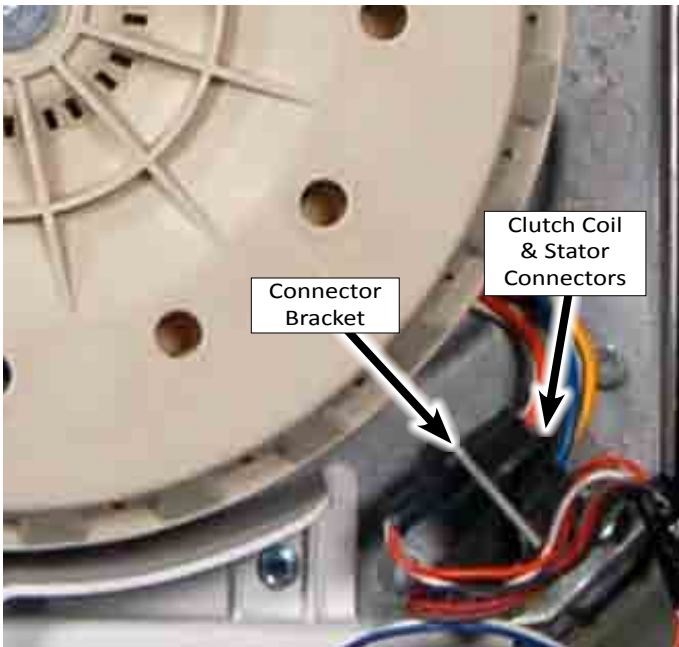

Figure 1
1. Unplug the clutch coil and stator connectors. Remove all connectors from the bracket (see Figure 1). Remove connector bracket if replacing the drive assembly.